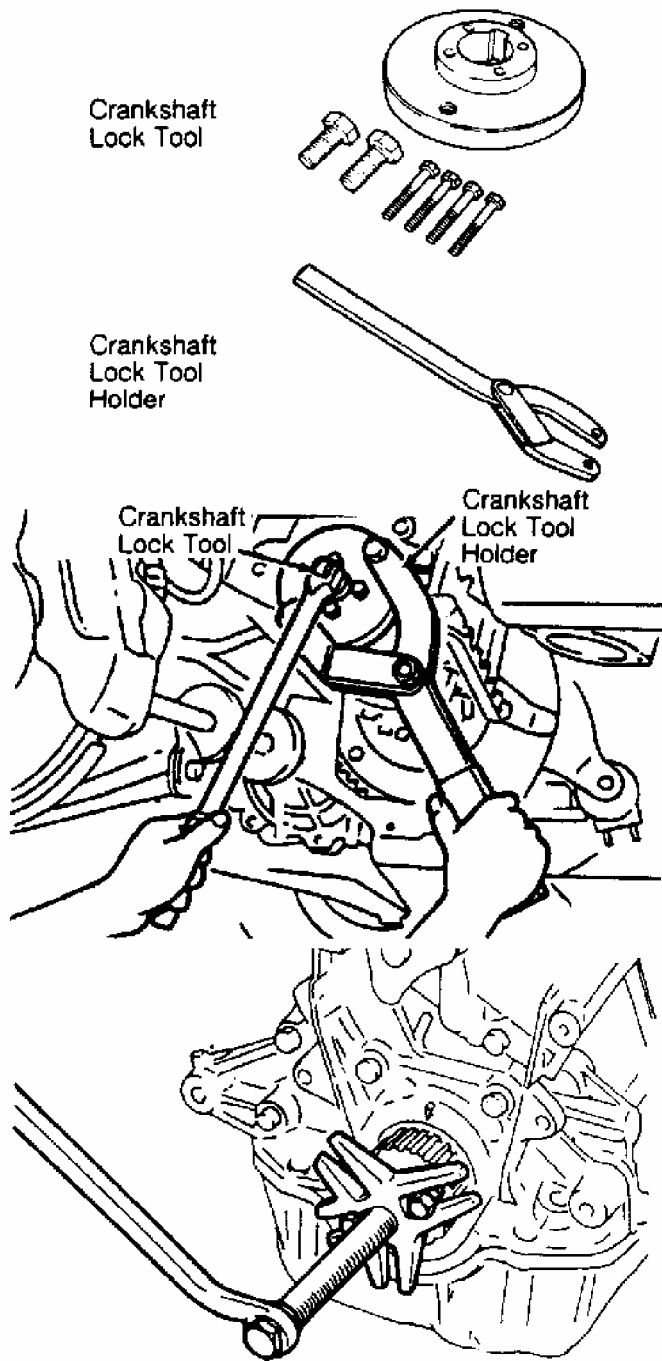

Fig. 5: Removing Crankshaft Sprocket
4. On all engines, check timing belt deflection with 22 lbs. (10 kg) of pressure applied to belt. See **Fig. 5**. Ensure timing belt deflection is within specification. See TIMING BELT DEFLECTION table.
(1) Deflection measurement is with 22 lbs. (10 kg) of pressure applied to timing belt. See **Fig. 5**.